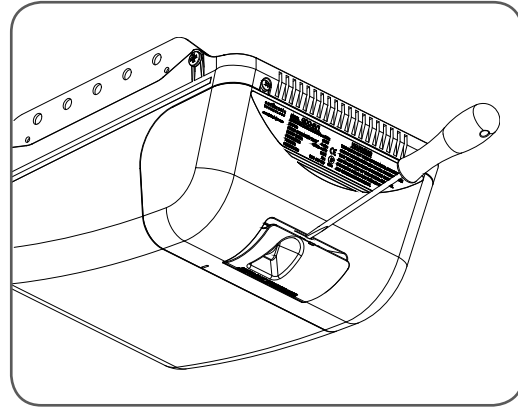

fig 22
- Remove the button cover with a blade screwdriver (**Fig. 22**).